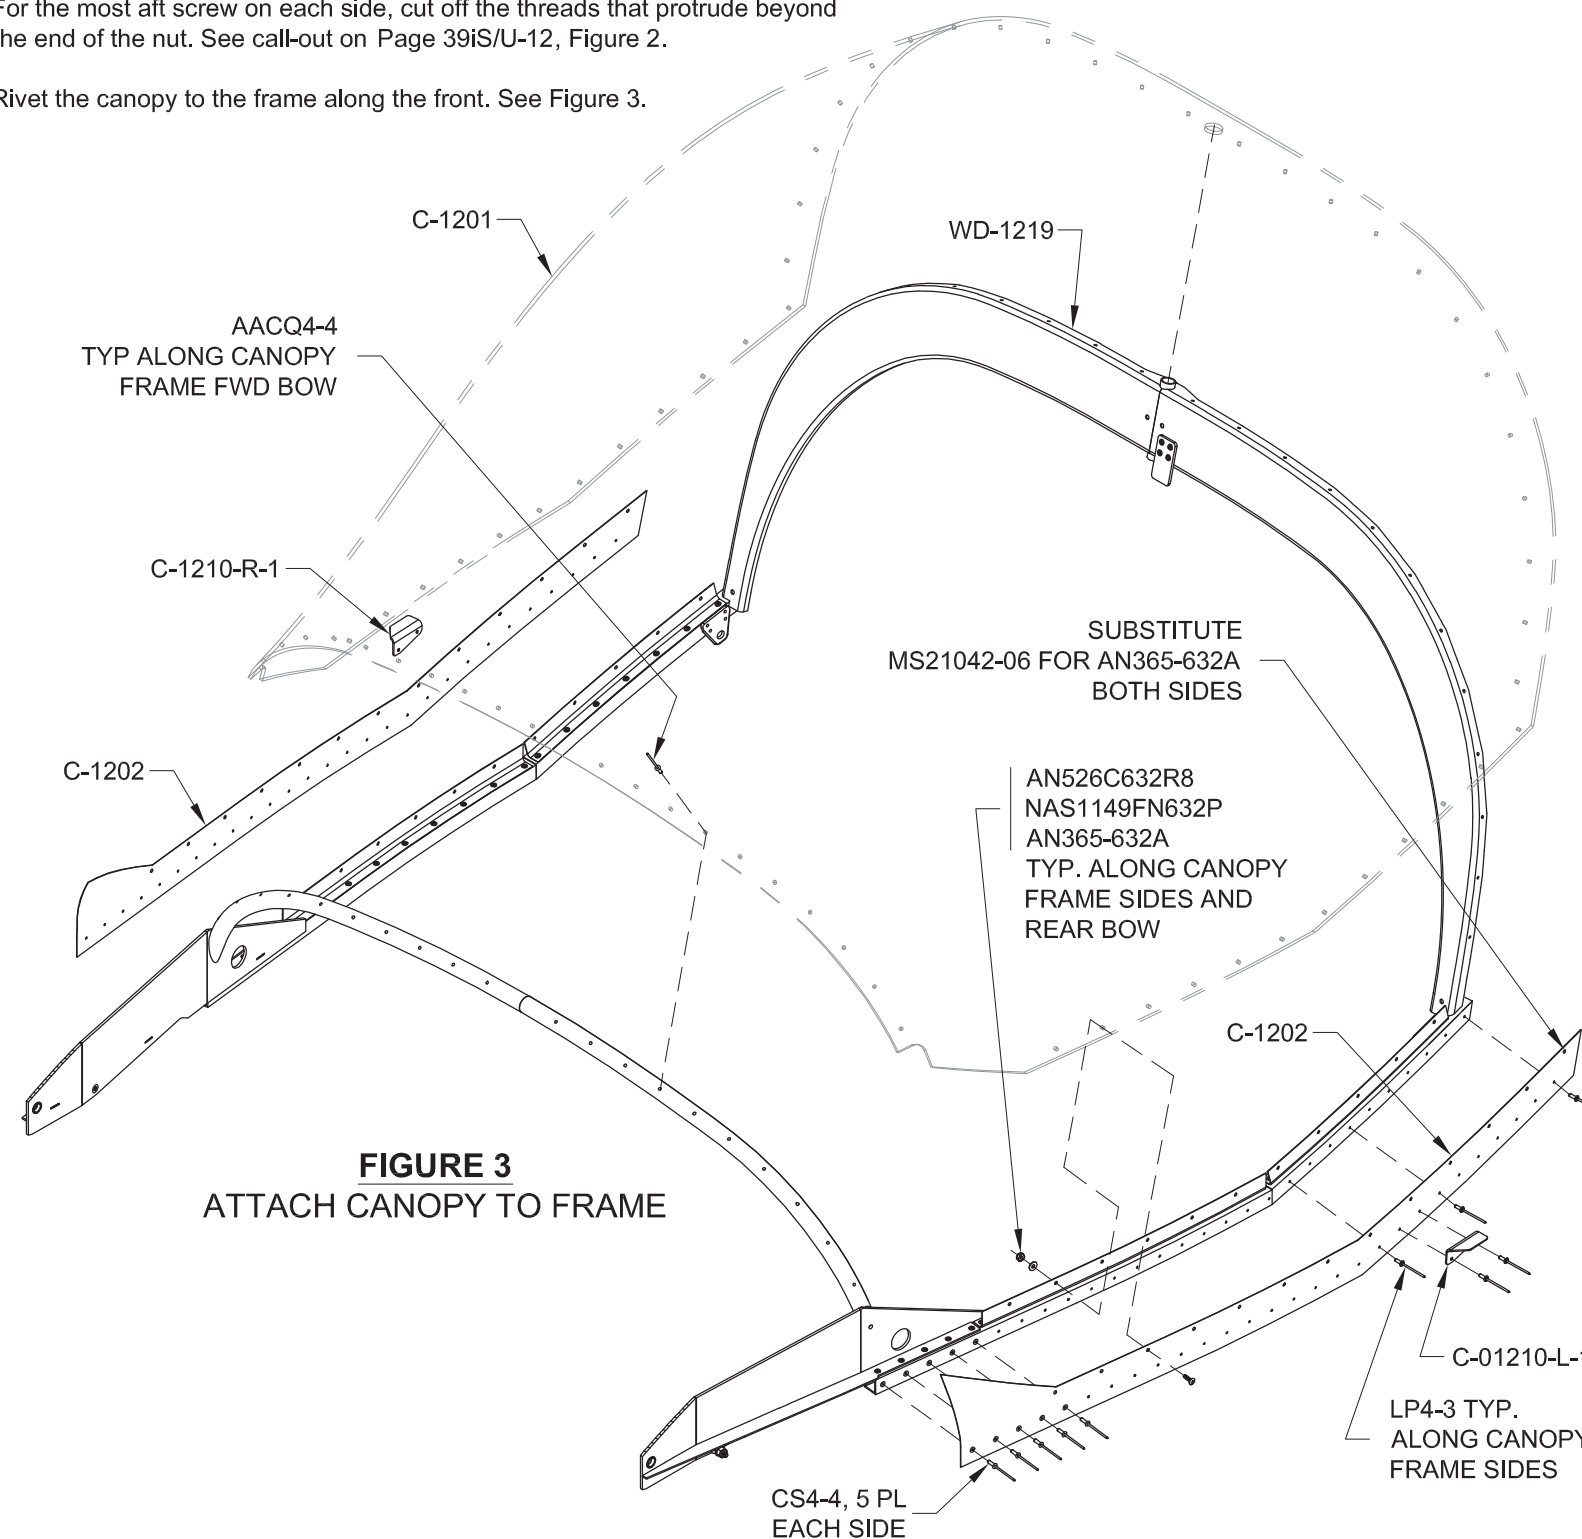

FIGURE 3
Screw the canopy to the frame along the rear bow using the hardware called out in Figure 3. Do not over-tighten the screws; tighten just enough so that the screws do not turn freely.
Step 3: Rivet the C-1202 Canopy Skirts, C-01210-L-1 and C-01210-R-1 Lift Handles to the WD-1219 Canopy Frame as shown in Figure 3.
Rivet the canopy to the frame along the front. See Figure 3.